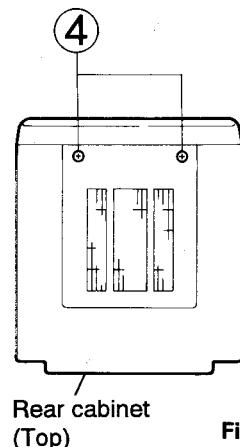

Fig. 5-4
5. Remove the two screws (4) retaining the rear cabinet from just above the body (Refer to Fig. 5-4).